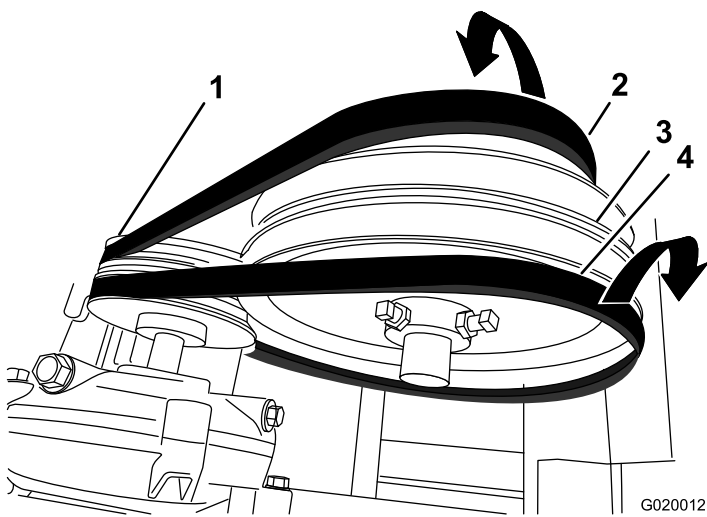

Figure 58
4. Slip the forward belt forward and off the idler pulley (Figure 58).
- Slip the rear belt rearward and off the idler pulley (Figure 58).